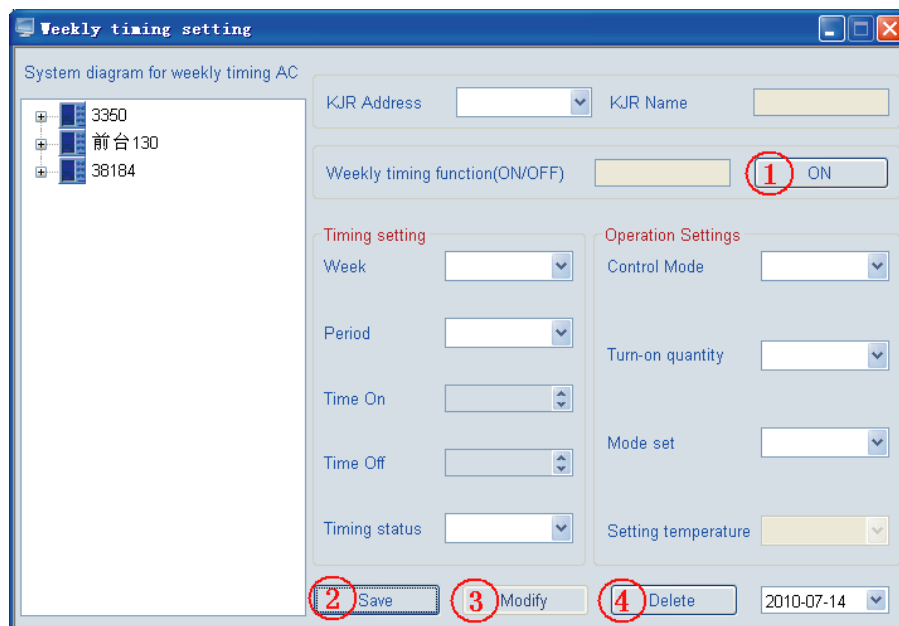

Fig.4-29
①Click “Weekly timing set” a window as Fig. 4-29 would pop up——finish the weekly schedule management setting, each wired controller represents a refrigeration system; and the existing wired controller is a wired controller has already been configured in the system.
- e、Save (See the ② key in the Fig.4-29) —— Save the current settings or the modified settings.
f. Modify(See the ③ key in the Fig.4-29) ——Press this key the parameter of selected period become changeable, and then click “Save” . Press the key again, all parameters in this period become unchangeable. See Fig. 4-33.